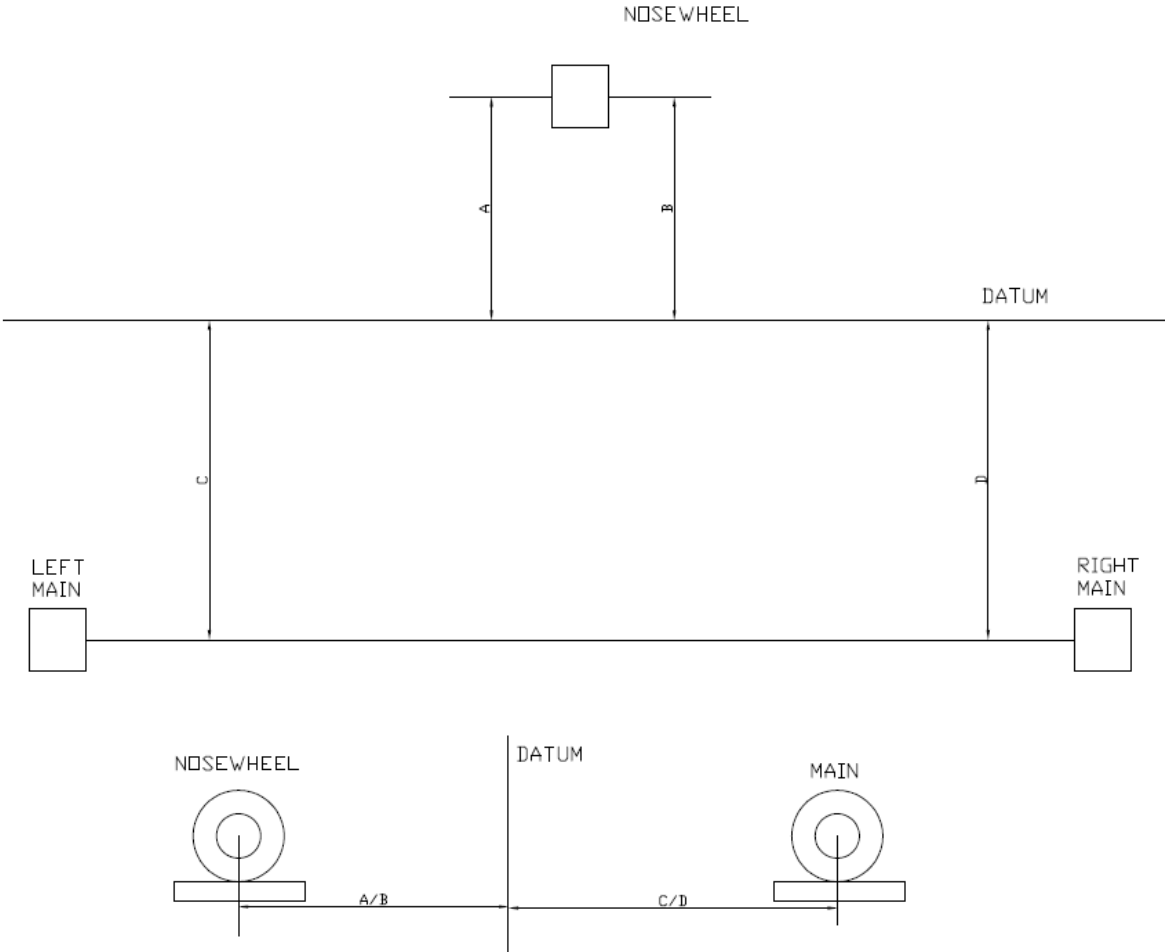

Figure 18 – Weighing Diagram.
9. All distances aft of the datum are considered positive and all distances forward of the datum are negative. See Figure 18. Note that while the arrangement shown assumes that the wing leading edge is the aircraft datum, for some Jabiru models the datum is displaced a fixed amount forward of the leading edge. For these models the measurements taken must be adjusted to readings relative to the datum. For example,